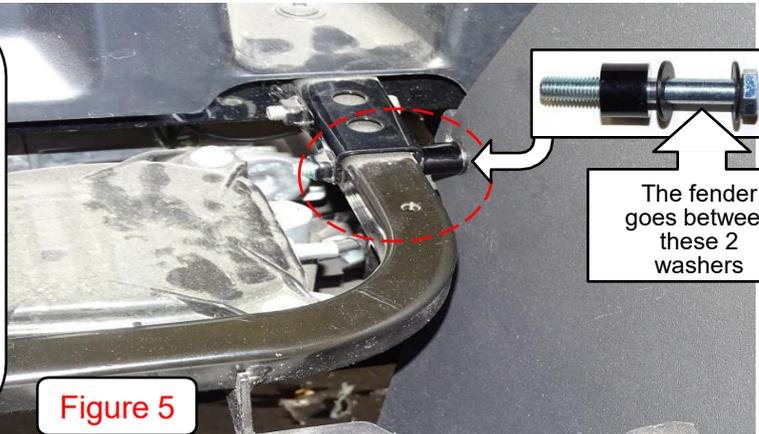

Figure 5
- 13) Remove the outer factory M8 bolt in **Figure 5**.